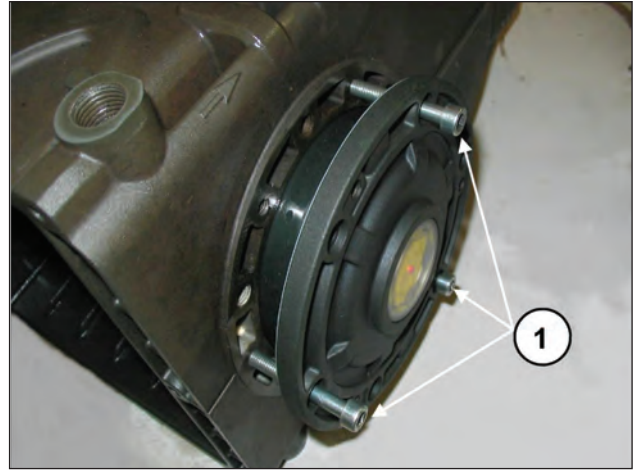

Fig. 8
To facilitate filling of the first section and relative press fitting of the covers on the casing, we recommend using 3 partially-threaded M6 x 40 screws (Fig. 8, pos. ①), then completing the operation with the screws supplied (M6x16).